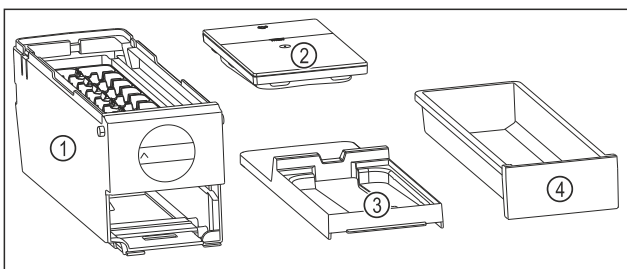

Fig. 112 Components of the EasyTwist-Ice
- ▶ EasyTwist-Ice is dismantled into four parts. (see Fig. 112)
- ▶ Only dismantle the EasyTwist-Ice into the components shown. (see Fig. 112)
- ▶ Clean the EasyTwist-Ice body Fig. 112 (1) as a whole.